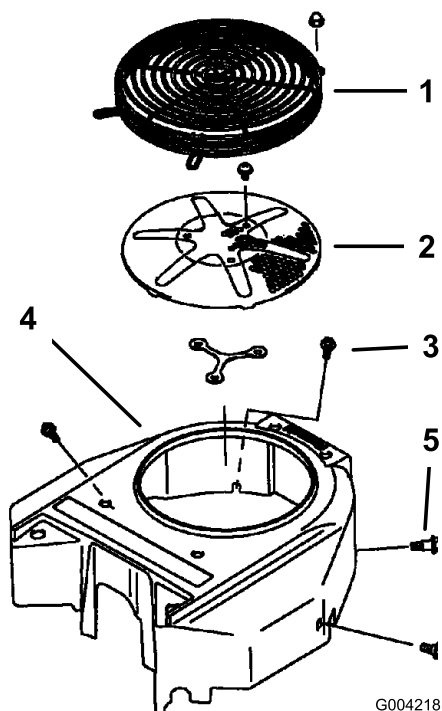

Figure 68
Before each use remove any build-up of grass, dirt or other debris from the engine screen. This will help insure adequate cooling and correct engine speed and will reduce the possibility of overheating and mechanical damage to the engine (Figure 68).
3. Remove the air intake screen, recoil starter and fan housing (Figure 68).
5. Install air intake screen, recoil starter and fan housing (Figure 68).